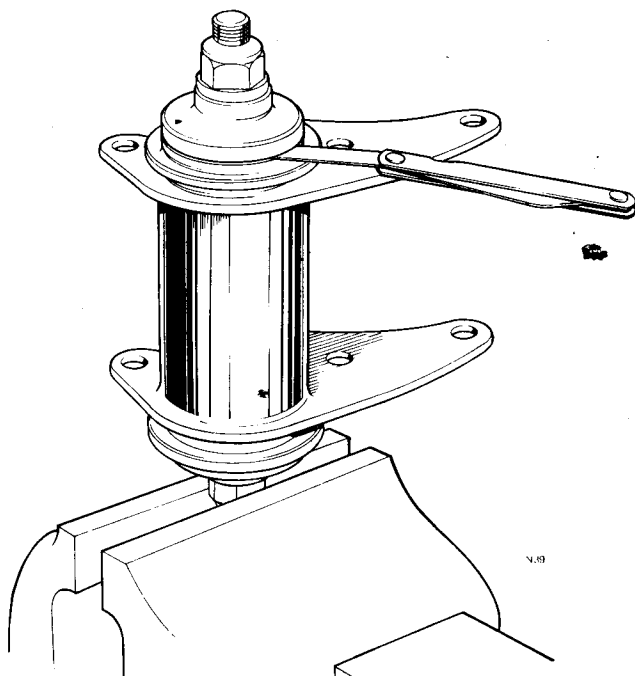

Fig. F13 Method 2. Holding front mounting in a vice for checking.
- 8 Assemble the front mounting less shims in a plain jawed vice. The order of assembly is shown in *Fig. F14* and the method of holding the mounting in *Fig. F13*.